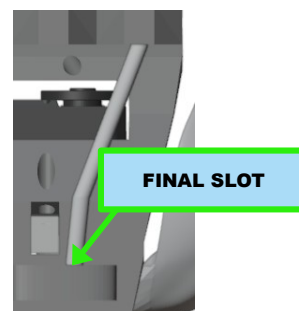

Figure 5.23: Inserting the tube into the final slot (rear view)
2. Insert the other end into the final slot shown in figure 5.23: if the tube is too long, shorten it by cutting it with a utility knife.